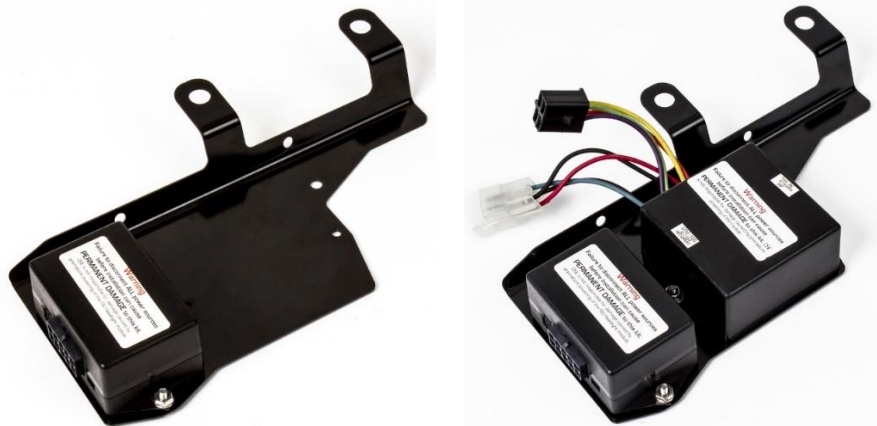

Figure 14 - 73-82 C3 Wiper Module Figure 15 - 73-82 C3 Wiper & Headlight Module
24. Install the wiper control module onto the module mounting plate using the provided 8-32 hardware if not already assembled from DSE. (Figure 14). Do not overtighten. **NOTE:** If you also have the DSE headlight kit, you can mount both control modules to the same mounting plate (Figure 15). Depending on your application, your module mounting plate may look slightly different than the pictures below.